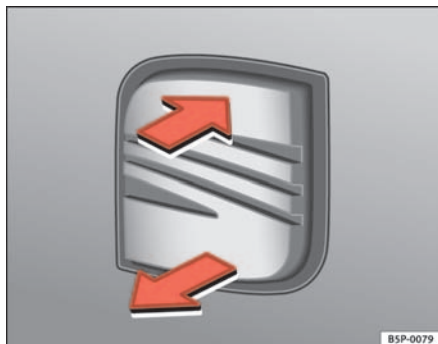

Fig. 65 Tailgate: Opening from the outside
- Pull on the release lever and lift the tailgate ⇒ fig. 65. The tailgate will then open.